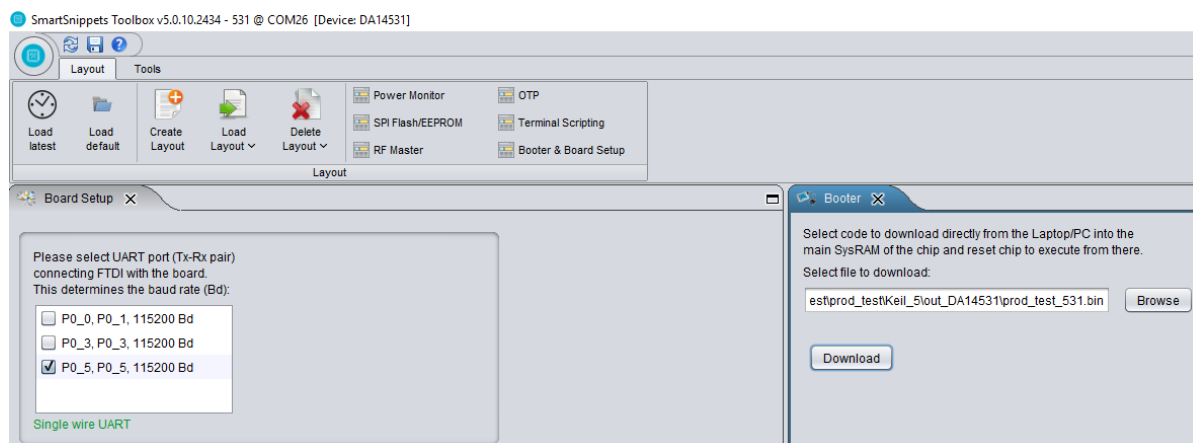

Figure 9: Board Setup and Booter
- Select P0_5, P0_5, 115200 Bd in the Board Setup and in the boot ROM browse through the binary you want to download to SysRAM as shown in the Figure 9 below,
The jumper settings on the motherboard from J1 to J2 header is as shown in Figure 9. The UTX (of the FTDI chip) is connected using a jumper cable to J2-P20 (P0_0/UART-Tx of the DA14531) and URX (of the FTDI chip) is connected to J2-P21 (P0_1/UART-Rx of the DA14531).